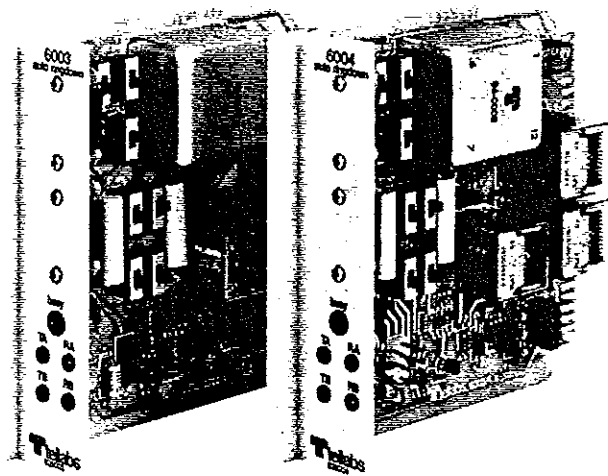
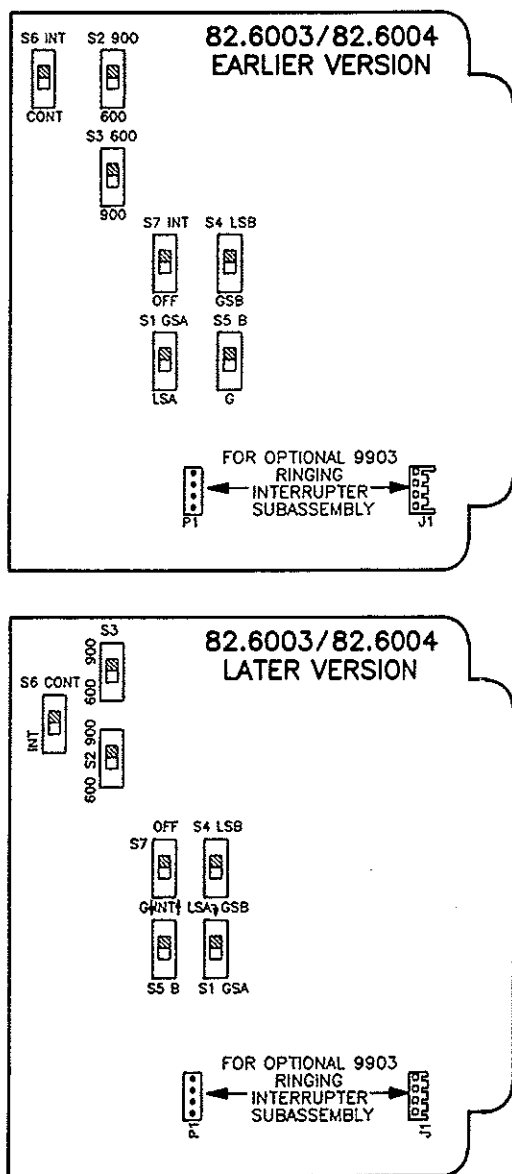

figure 1. 6003 and 6004 2Wire Automatic Ringdown modules
figure 4. Option switch locations
1.02 This practice section is revised to add a second option-switch-location diagram in section 3. This new diagram shows option-switch locations and designations for a second, later manufacturing version of the Issue 2 6003 and 6004 modules (Tellabs part numbers 826003 and 826004). This later version is not documented in previous practice revisions. Please be aware that the earlier and later versions of the 6003 and 6004 are functionally identical. However, the location and orientation of several printed-circuit-board option switches on the later version of each module are changed with respect to the earlier version. The changes are obvious enough that the two versions are easily distinguishable from one another, although it should be noted that the earlier version may have either an aluminum front panel with visible screw heads protruding (as shown in figure 1) or a plastic front panel with no screw heads protruding. Thus, comparing your module's option switch layout to those shown in figure 4 is the only way to make certain which version you have. Additional practice changes include minor corrections to the block diagram, section 5 of the practice, and updated information in the text portion of section 7.
3.05 Neither 6003 nor 6004 module requires alignment. Several switch options are provided, however, to condition the module for specific applications. Each module should be correctly optioned before being plugged into place. Figure 4 illustrates the position of the various 6003/6004 option switches. Switches are labeled on the module as shown in figure 4.